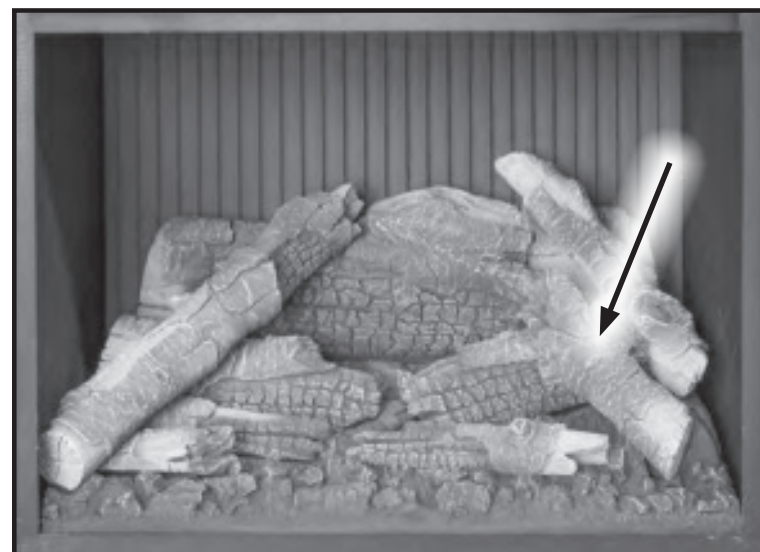

Figure 43. Final Top Log.
7. Install the last log on top, on the right side, as shown in Figure 43. Note the locating notch on the bottom side that matches the half round on top of the large bottom log sitting on the ember bed.